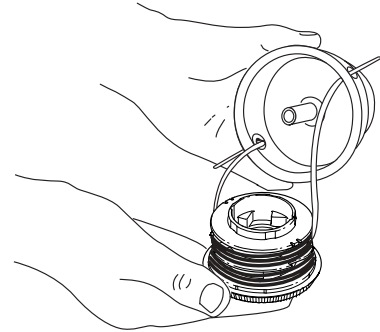

Fig. 21
- Insert the ends of the prewound inner reel line into the outer spool eyelets (Fig. 21). Push the new inner reel, arrow side up, into the outer spool.
- Pull the inner reel with existing line from the outer spool (Fig. 21).